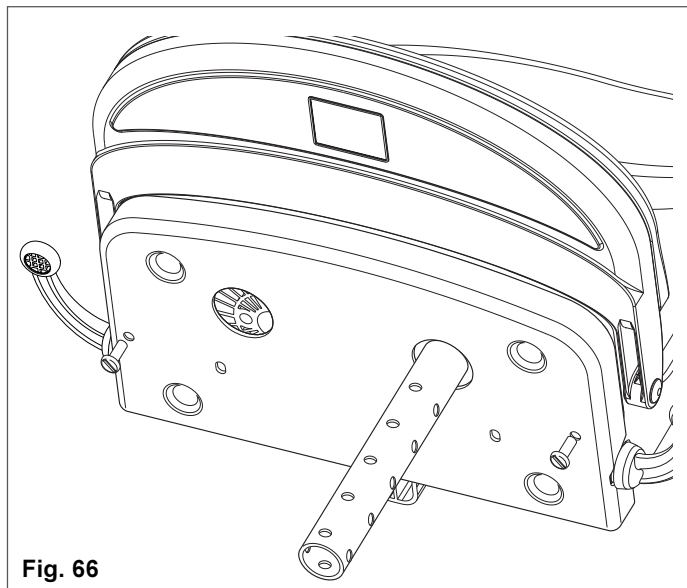

Fig. 66
- 16 Snap out the plastic covering the new position required for the seat stem (Fig. 65), and replace the cover (Fig. 66).
- 17 Fit the cover moulding using the two plastic nuts (Fig. 66).
- 18 Replace the seat in the required position (Fig. 66), refer to page 11 and 12 (Fitting the seat), for details of the sequence.